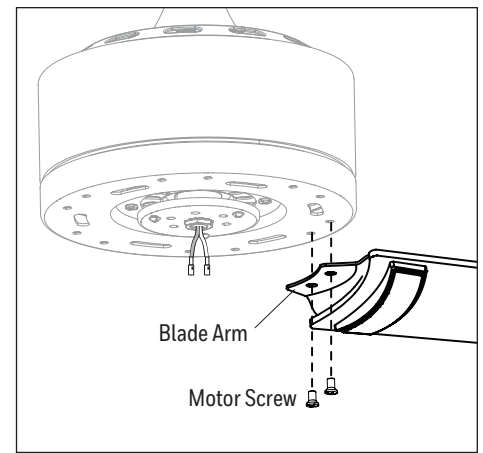

Figure 5.5
5. Install the blade arm to the underside of the motor assembly with the motor screws. Tighten each blade arm completely before moving to the next (Figure 5.5).